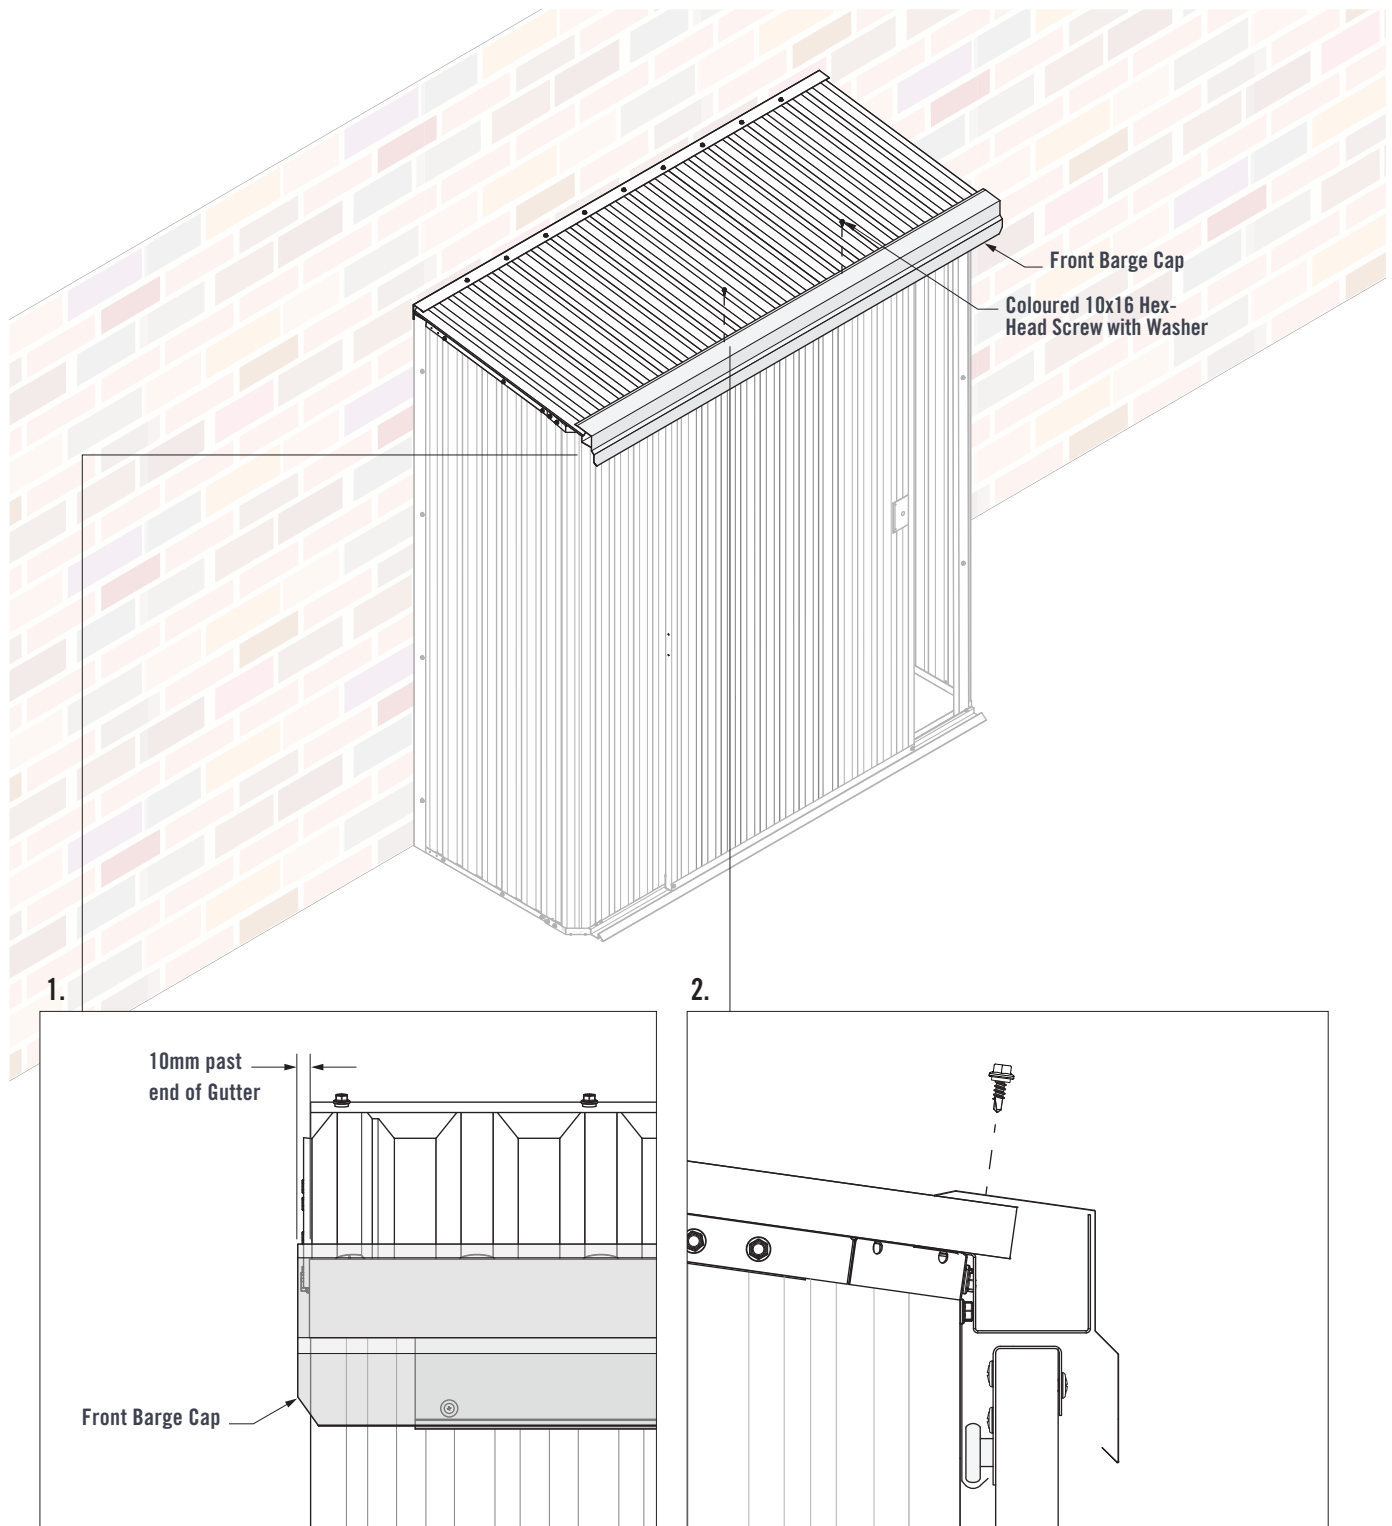

FIGURE 8.3
1. Fit the Front Barge Cap against the Gutter. Ensure a 10mm gap between the end of the Gutter and end of the Front Barge Cap (Figure 8.3).
2. Fasten two Coloured 10x16 Hex-Head Screws with Washers through the Front Barge Cap and into the Roof Sheet pans (Figure 8.3).